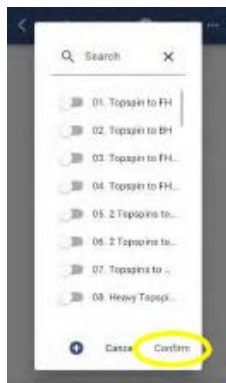

Figure 3-69
The App comes with 2 pre-loaded Groups, one is called Preset Drills, and the other is called Test Drills. (Figure 3-69)
3. Push the [+] , add Drill button at the top of the screen. You will now see a scrollable list of all available Drills. (Figure 3-69)
5. When you've added all of the Drills you intend to have in the Group, push the Confirm button near the bottom of the Add Drill screen. (Figure 3-69)